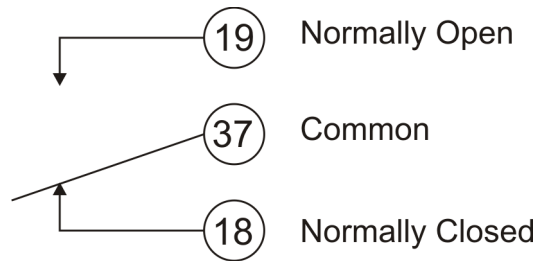

Figure 8. Form C relay contacts
The Form C relay has a Common (C), Normally Open (NO) and Normally Closed (NC) contact; see Figure 8.